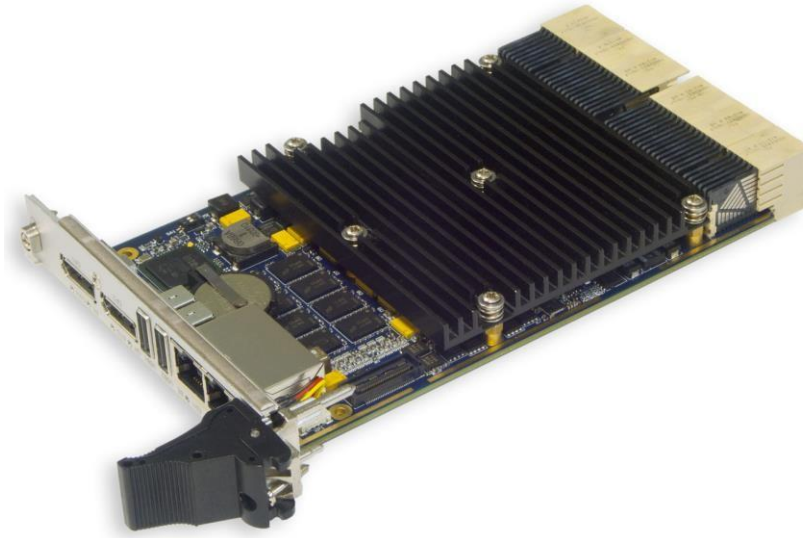

Fig. 1-2: CPC512 module with the installed aluminum heatsink R1 (4HP)
- Aluminum, blackened heatsink for operation with dual core Intel i7-3517UE CPU 1.7 GHz in commercial temperature range (see Fig. 1-2).